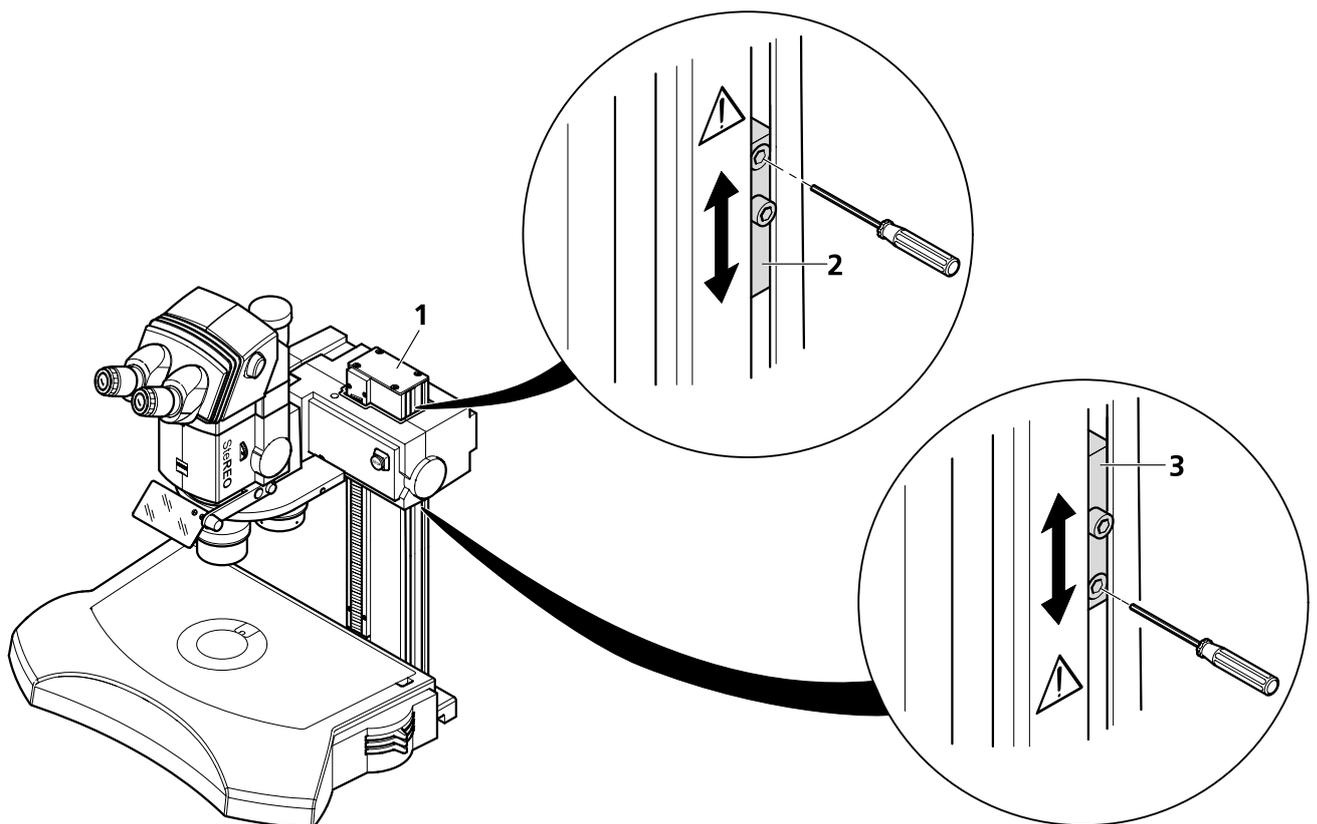

Fig. 28 Adjusting the travel of the focusing drive
After the first installation, the lower limit switch (Fig. 28/3) in the column (Fig. 28/1) must be adjusted from the delivery position to an appropriate working position by means of the ball-headed screwdriver. The upper stop (Fig. 28/2) may also be readjusted. Adjust the limit switches instantly to prevent the microscope from being damaged by the movement of the motorized focusing drive.
- Loosen the screw (SW3) at the lower limit switch (Fig. 28/3) and push the switch downward. Tighten the screw again.